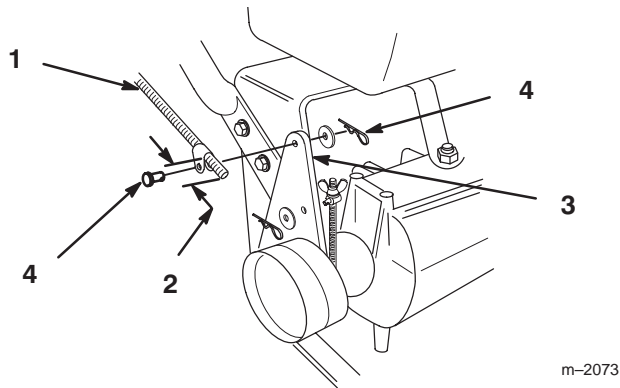

Figure 9
1. Thread rod fittings equal distance onto each control rod. For a starting point thread on approximately 2 in. (51 mm) (Fig. 9).
2. Slide clevis pins through rod fittings and mounting holes in idler brackets (from outside) (Fig. 9). Secure with washers and hairpin cottes (Fig. 9).